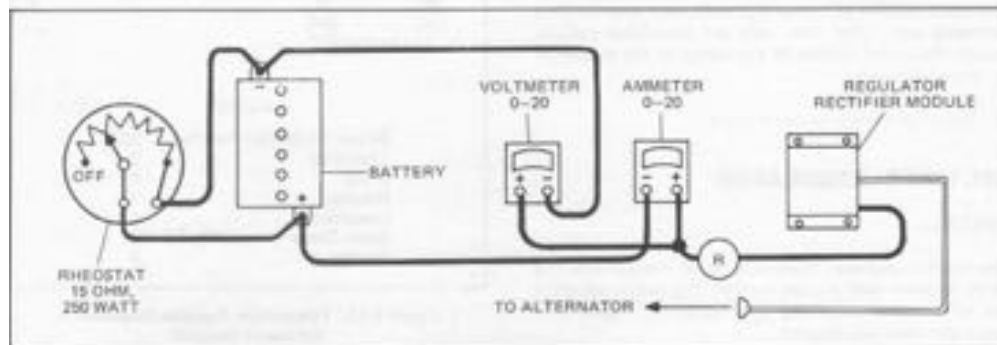

Figure 5-12. Test Arrangement with Individual Components
**Regulating Voltage Check:** (See figures 5-12 and 5-13.) Connect an ammeter in series with the alternator output. Connect load rheostat (carbon pile) and voltmeter across battery. Check regulating voltage while running engine at 3600 rpm.